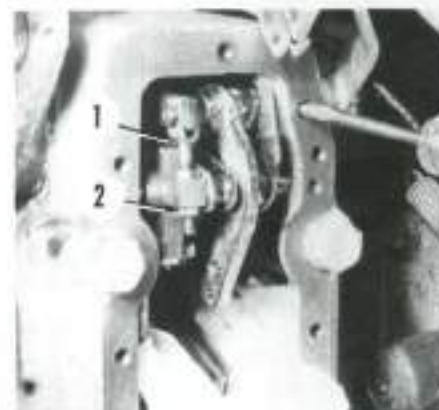
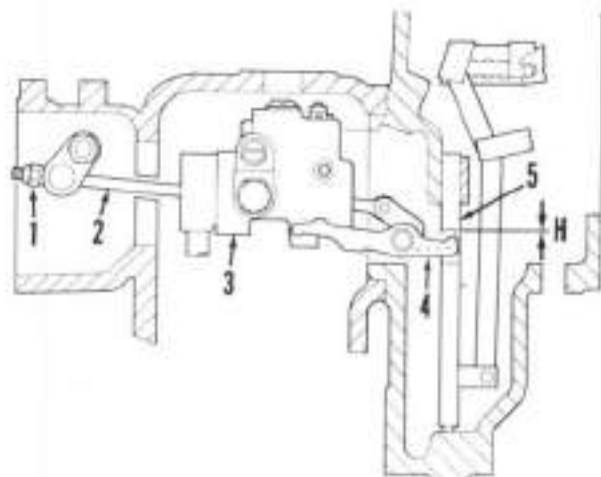

Fig. 251—Remove cover from rear of right-hand rockshaft bracket to gain access to draft link adjuster (1) and adjusting nuts (2) on Model 1594.
Fig. 252—Adjust control rod nut (1) to provide 2 mm (0.080 inch) gap (H) between rocker lever and sliding bar. Refer to paragraph 319.
Lower the linkage, then raise linkage to full lift position. Move sensing control lever rearward to full draft position. Turn lower nut (2—Fig. 251) on draft link adjuster (1) clockwise until pressure relief valve just closes, then
Raise lift arms by hand and support in fully raised position with stands. Remove cover from rear of right-hand rockshaft housing. Loosen lower nut (2—Fig. 251) on draft link adjuster (1) until nut is even with end of adjuster rod. Remove cover from control housing on right side of axle housing. Turn adjusting nut (1—Fig. 252) on end of control rod (2) clockwise to increase clearance between rocker lever (4) and sliding bar (5), then turn nut (1) counterclockwise until there is a 2 mm (0.080 inch) gap (H) between lever and bar. Insert feeler gage through rear opening in rockshaft bracket to measure gap.